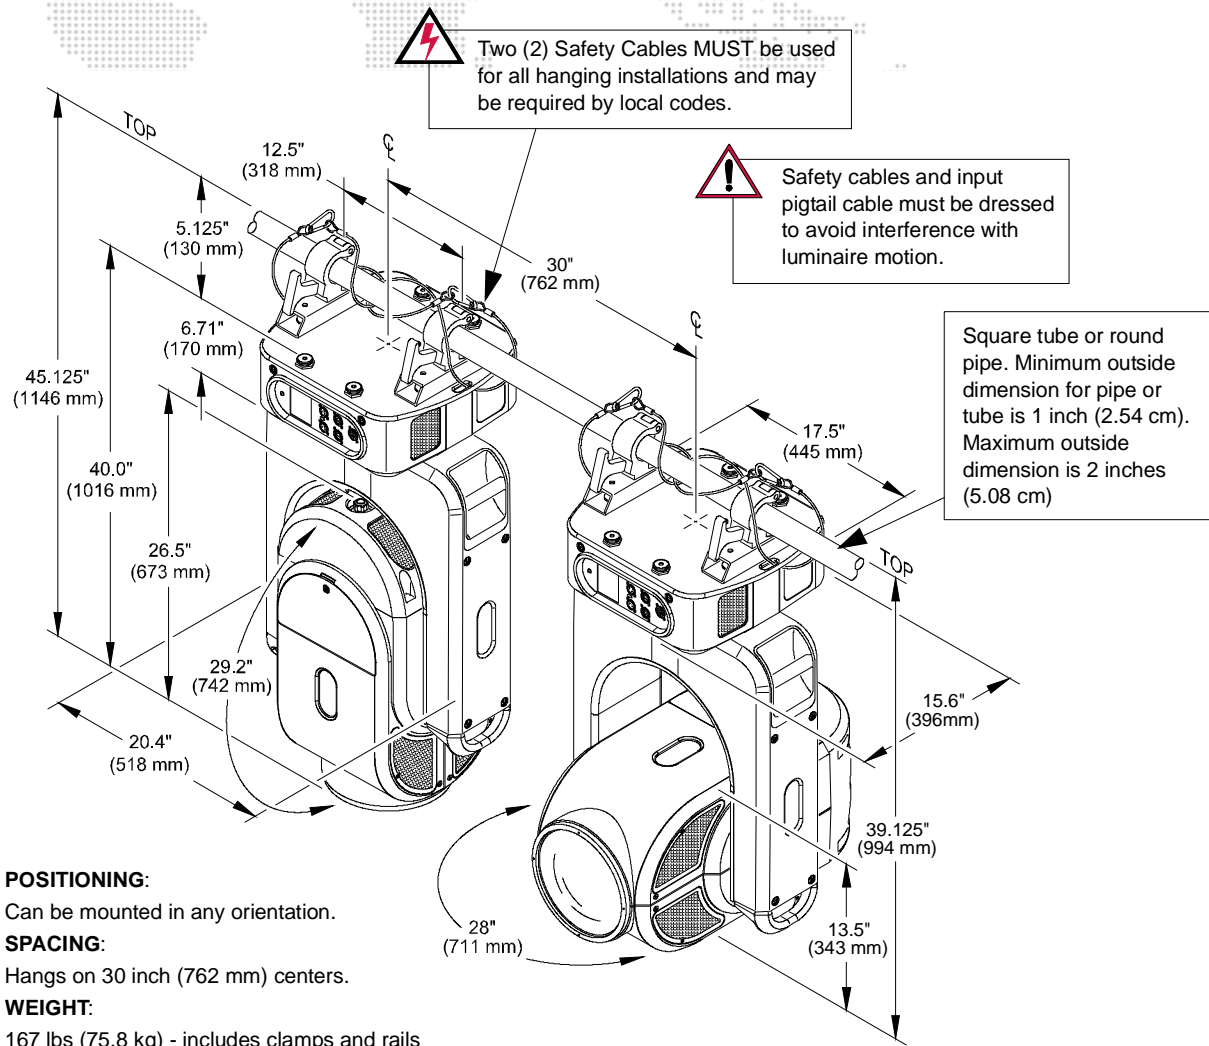

Figure 2-5: Standard Hanging Configuration and Dimensions
- Step 4. Secure in place by tightening Truss Hook wing bolts (**Figure 2-5**). Ensure that luminaire is fully supported.
- Step 5. Feed safety cables through mounting bracket slots and secure around pipe as shown in **Figure 2-5**.
**CAUTION:** Before applying power, be sure the luminaire is hung or positioned so that the head and yoke can move freely without restriction. Refer clearances in Figure 2-5 on page 15.